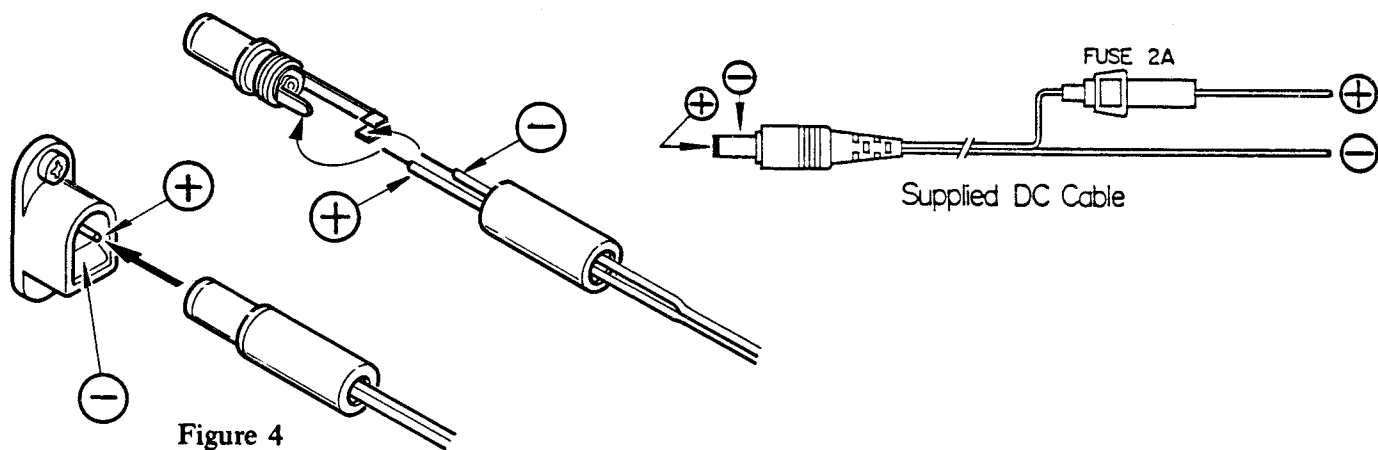

Figure 4
- (7) Replace the bottom cover and carrying handle, replacing the six screws removed in steps (2) and (3). Also replace the backup battery and cover.
- (8) The DC power cord should be wired as shown in Figure 4. Be careful to ensure correct polarity.